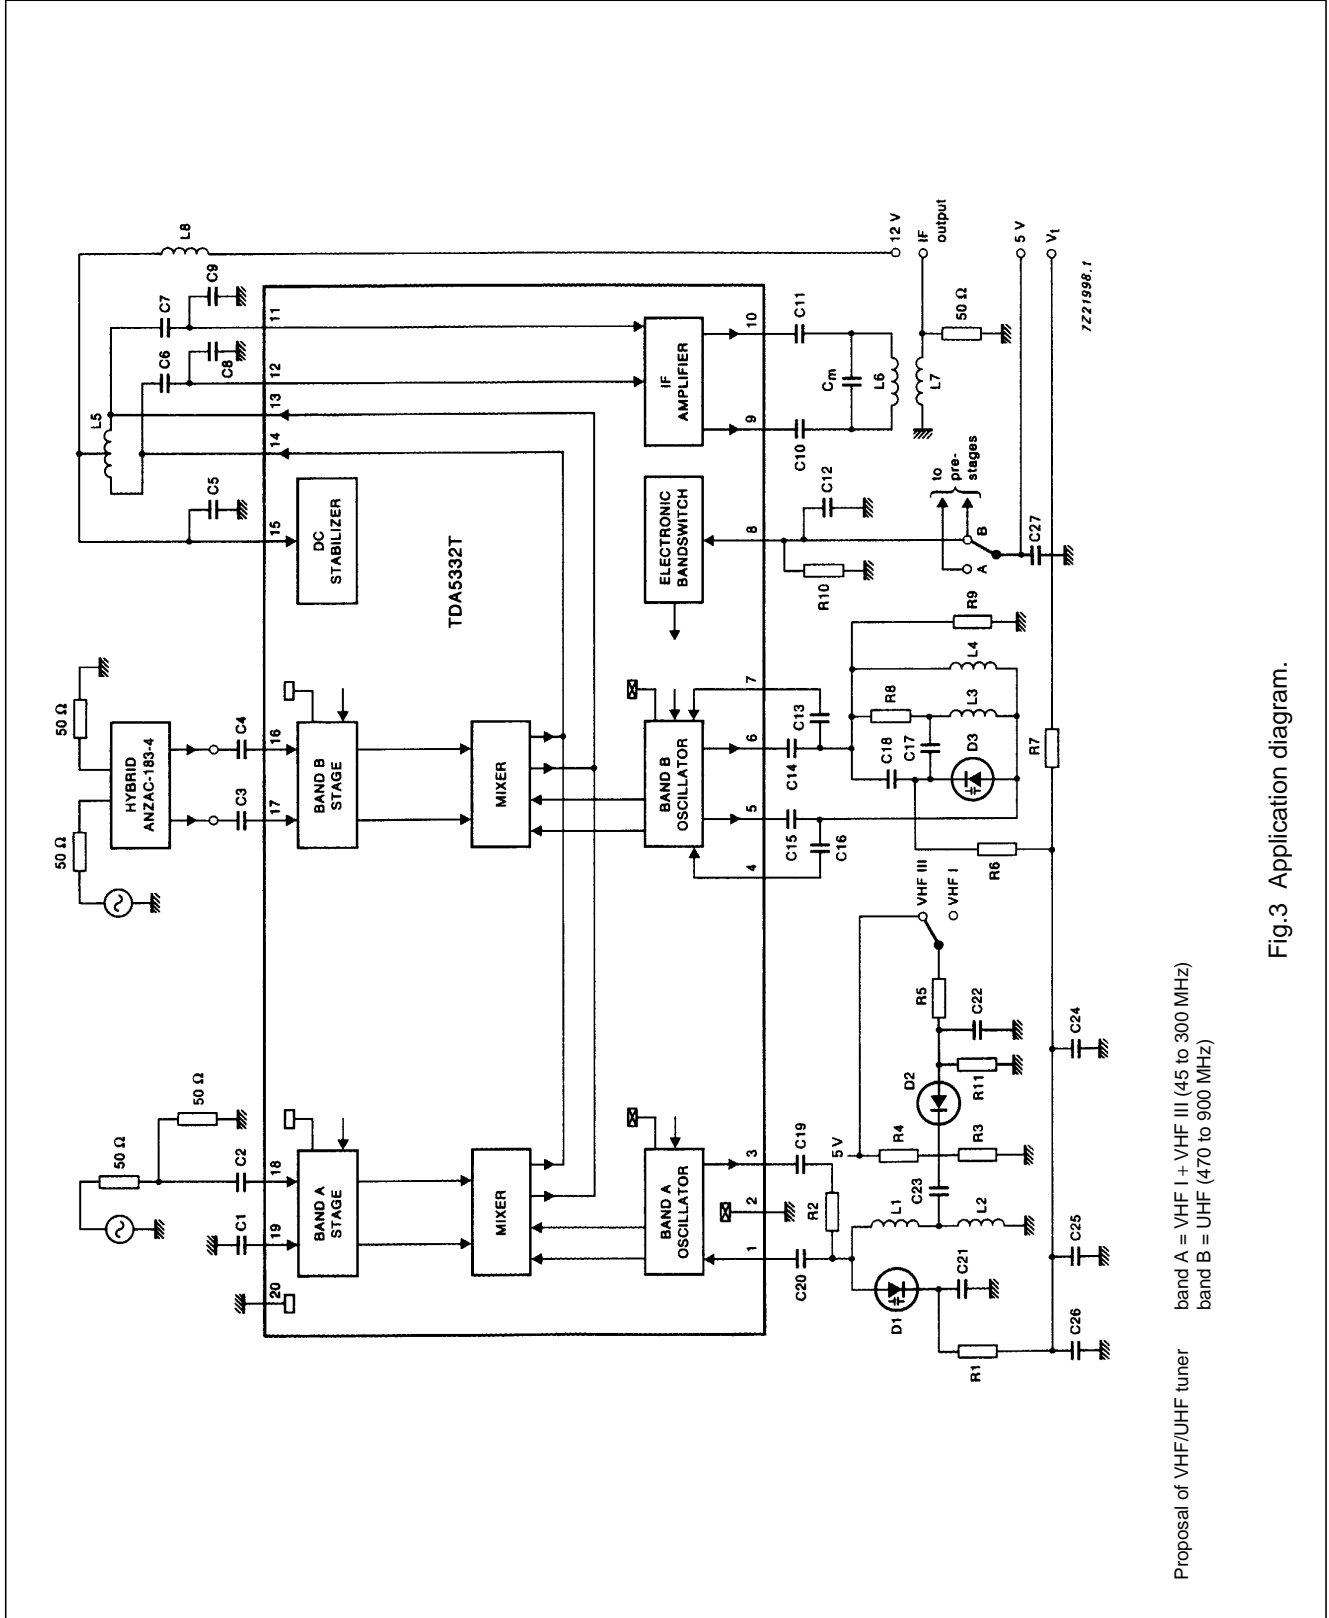

Fig.3 Application diagram.
$V_P = 12\text{ V}$ ;  $T_{amb} = 25\text{ }^\circ\text{C}$ ; all voltages are referenced to ground (pins 2 and 20); measured in Fig.3; unless otherwise specified.
Band A mixer (including IF amplifier)	measured using circuit shown in Fig.3
- The gain is defined as the transducer gain (measured in Fig.3) plus the voltage transformation ratio of L6 to L7 (6:1, 16 dB).